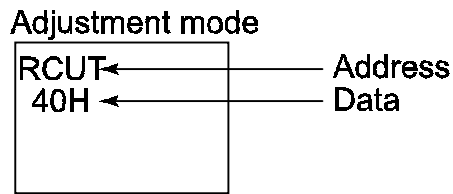

Figure 3
**Readme:** RCUT is a data address in the system EEPROM. The hexadecimal data contained in the address will be shown just below it, as shown in Figure 3.